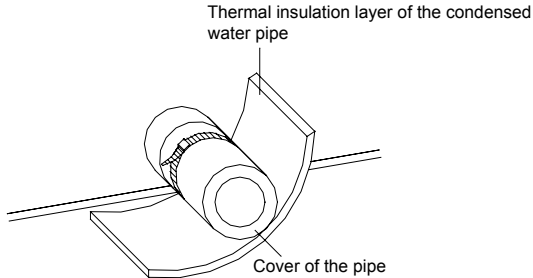

Fig.12 Thermal insulation of the condensed water pipe
- ◆ The condensed water pipes should be kept at 5—10 degrees of gradient to facilitate discharge of condensed water. Thermal insulation materials should be placed at the joints of the condensed water pipes so as to prevent from dew condensation. (As shown in Fig.12)